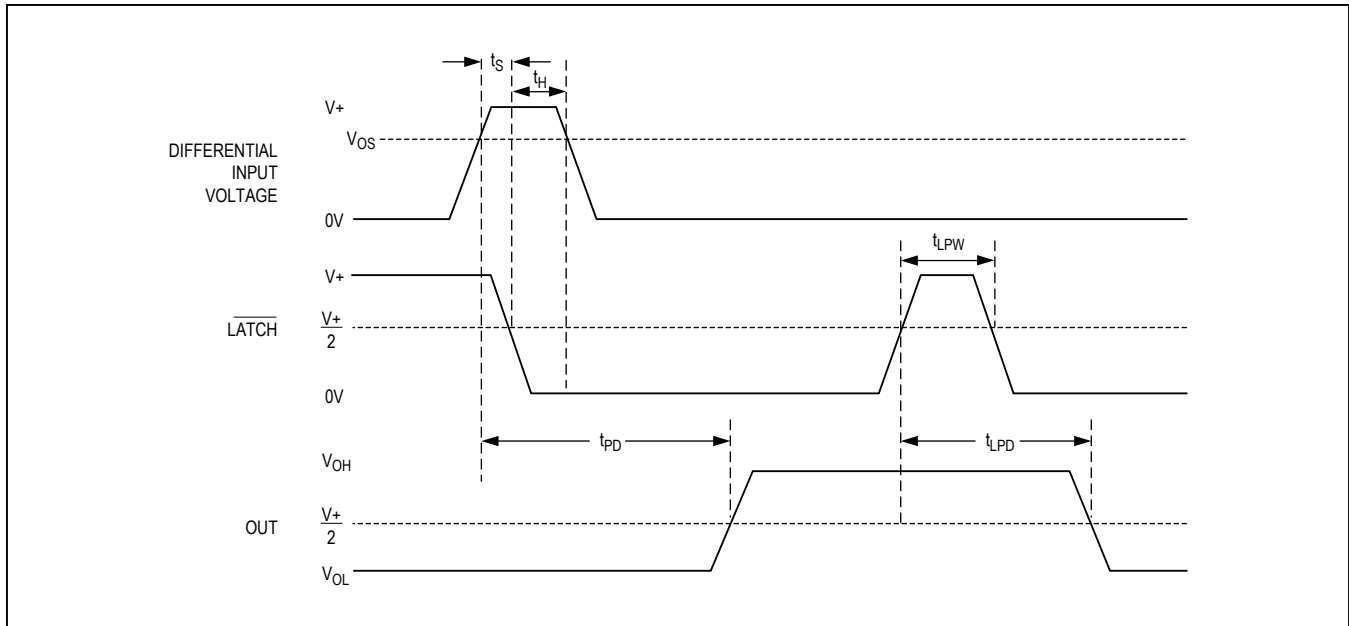

Figure 2. MAX941 Timing Diagram with Latch Operator
**Note 8:** Parameter is guaranteed by design and specified with VOD = 5mV and CLOAD = 15pF in parallel with 400μA of sink or source current. VOS is added to the overdrive voltage for low values of overdrive (see Figure 2).
**Note 12:** Applies to the MAX941 only. Comparator is active with LATCH pin driven high and is latched with LATCH pin driven low (see Figure 2).
The MAX941 includes an internal latch that allows storage of comparison results. The  $\overline{\text{LATCH}}$  pin has a high input impedance. If  $\overline{\text{LATCH}}$  is high, the latch is transparent (i.e., the comparator operates as though the latch is not present). The comparator's output state is stored when  $\overline{\text{LATCH}}$  is pulled low. All timing constraints must be met when using the latch function (Figure 2).